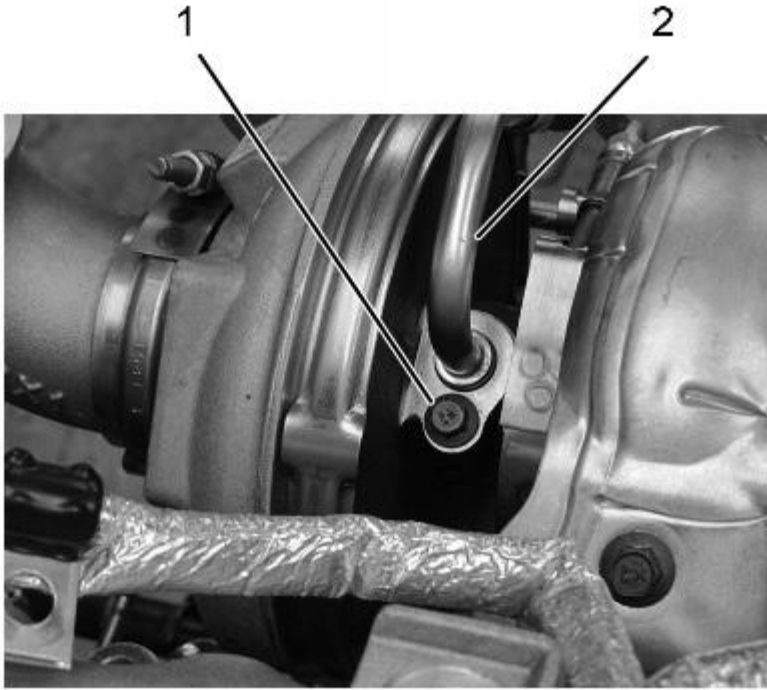

Figure 13. Oil Supply Tube.
8. Connect oil supply tube (Figure 13, Item 2) to HP turbocharger.
9. Install oil supply tube (Figure 13, Item 2) with M6 X 16 bolt (Figure 13, Item 1).